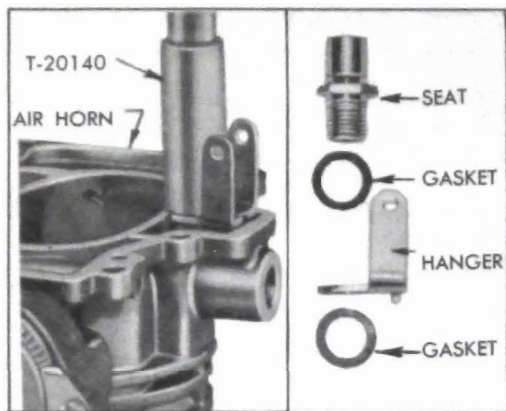

Figure 3-65—Removing Needle Valve Seat and Float Hanger
4. Tap end of float lever fulcrum pin which is not serrated to remove the pin, then remove float and needle valve. Shake float to see whether it is "loaded" with gasoline due to a leak. Remove air horn gasket, then remove needle valve seat and float hanger using Wrench T-20140. See figure 3-65.
20. Install float hanger with a *new* gasket on each side and install float needle valve seat, using Wrench T-20140. See figure 3-65.